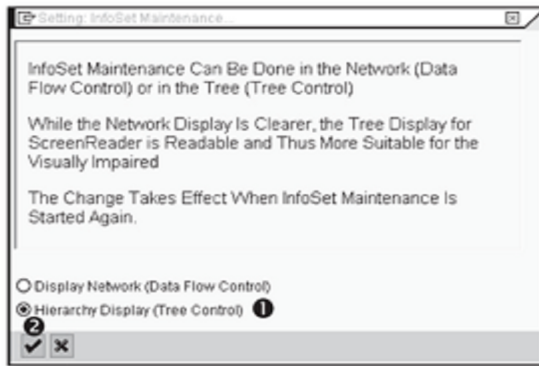

Figure 6.33 Changing the InfoSet Maintenance Screen Setting
So far we've seen the network display in the earlier section. You can change between the two settings by using the menu path **SETTINGS • DISPLAY**. The **Setting: InfoSet Maintenance** box appears as shown in Figure 6.33. Select the **Hierarchy Display (Tree Control)** radio button (❶). Click on the continue icon  (❷).